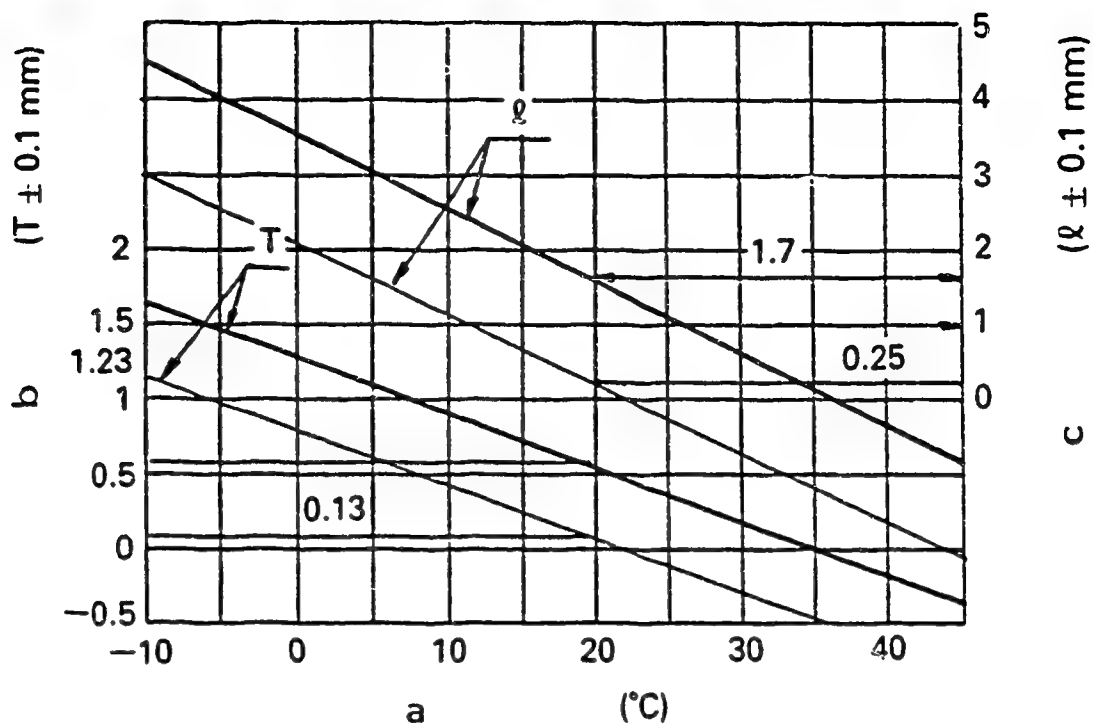

Fig. 49
- 1) Calculate the timer stroke from Fig. 49 according to the atmospheric temperature at the time of adjustment.
Formula for calculating timer stroke: (Fig. 49)
- 1) Calculate the block gauge dimension $l \pm 0.05$ mm from (Fig. 49) according to the atmospheric temperature at the time of adjustment.
- 2) Insert the block gauge (thickness gauge) selected in (Fig. 49) between the bracket and the idling stopper bolt.